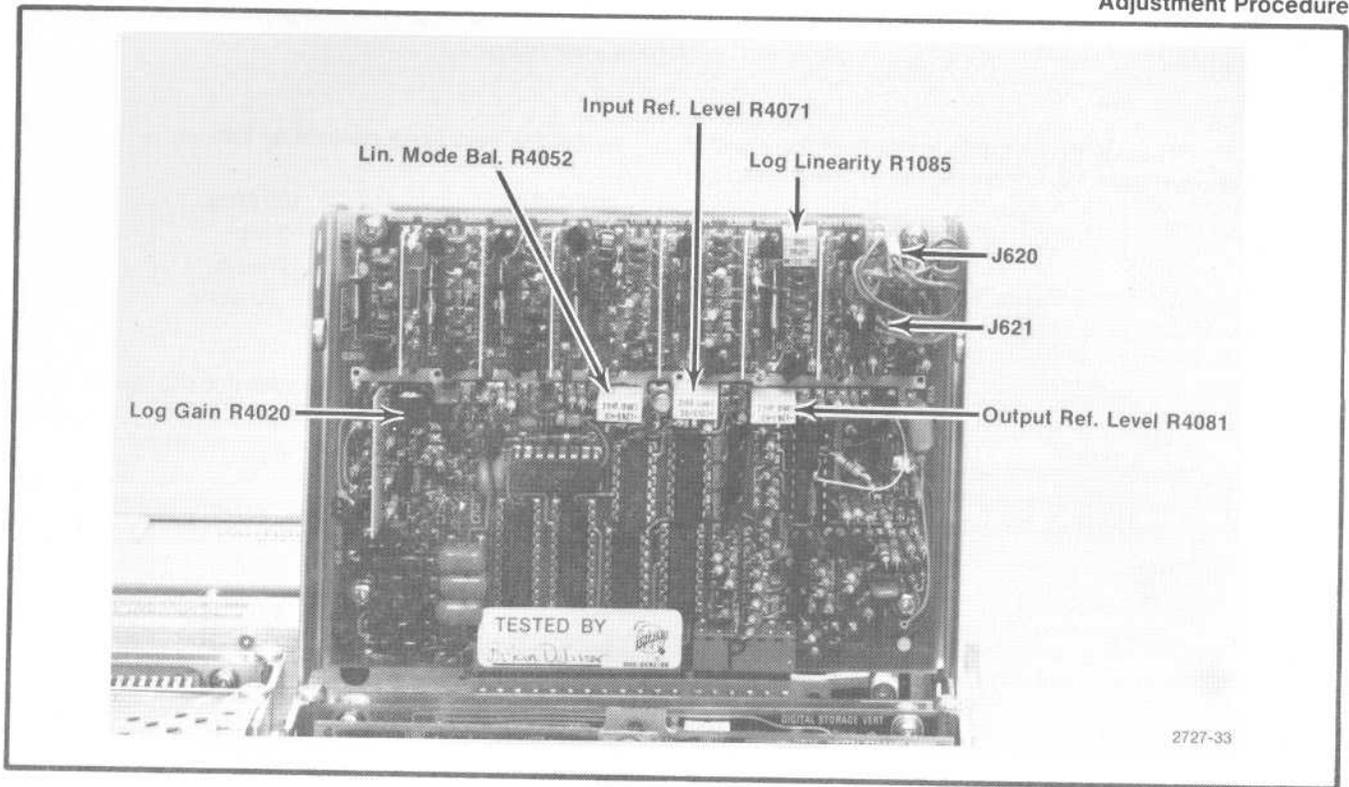

Fig. 3-35. Location of connectors and adjustments on the Log and Video Amplifier.
b. Remove P621 and apply a 10 MHz signal of 0 dBm from the signal generator, through 10 dB and 1 dB step attenuators, to the input of the Log Amplifier at J621 (Fig. 3-35). Set the step attenuators for 50 dB of attenuation.
e. Increase the step attenuators in 10 dB steps. Adjust Log Gain, R4020 (Fig. 3-35), so each 10 dB of change produces a division of change on the display.
g. Alternately switch the Vertical Display between 10 dB/DIV and 2 dB/DIV while adjusting Input Ref Lvl, R4071 (Fig. 3-35), for minimum amplitude change between the two displays. *MAY HAVE TO ADJUST R4081 TOO!*
j. Adjust Output Ref Lvl, R4081 (Fig. 3-35), for a full screen (eight divisions) display.
k. Switch to the 10 dB/DIV mode and set the step attenuators for 40 dB. Adjust Log Linearity, R1085 (Fig. 3-35), so the display is mid-screen.
s. Switch the Vertical Display to LIN and adjust Lin Bal, R4052 (Fig. 3-35), for a full screen display. Display amplitude of LIN, 2 dB/DIV, and 10 dB/DIV display should now be the same.
l. Now disconnect the 10 MHz third converter signal (P693) from the VR#2 input and connect it to the input of VR#1 (J693), through the Seaelectro male-to-male adapter and coaxial cable. Connect the output of VR#1 (P683) through another Seaelectro male-to-male adapter and coaxial cable to the input of the Log Amplifier at J621 (Fig. 3-35).
b. Connect the output of VR#2 to the input of the Log Amplifier assembly by connecting a cable from J682 to J621 (see Fig. 3-35).